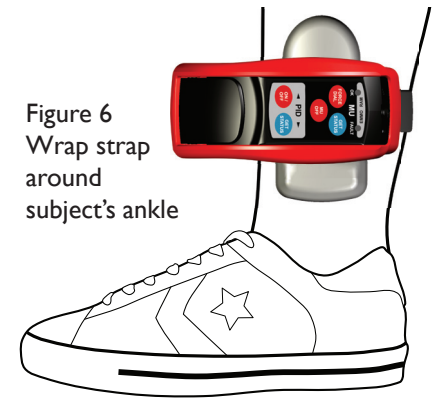

Figure 6
12. Wrap the strap and SOLO around the subject's ankle and click the SOLO into the tool. **(Figure 6)**